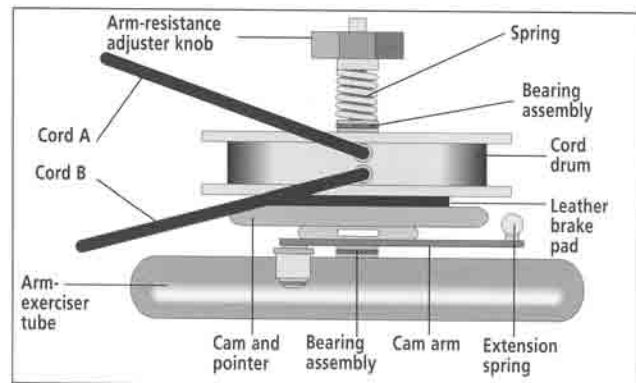

Figure 1
2. Remove the arm-resistance adjuster knob, spring, and bearing assembly from the cord drum (Figure 1). Inspect the bearing. Lightly oil the bearing if it is not greasy.